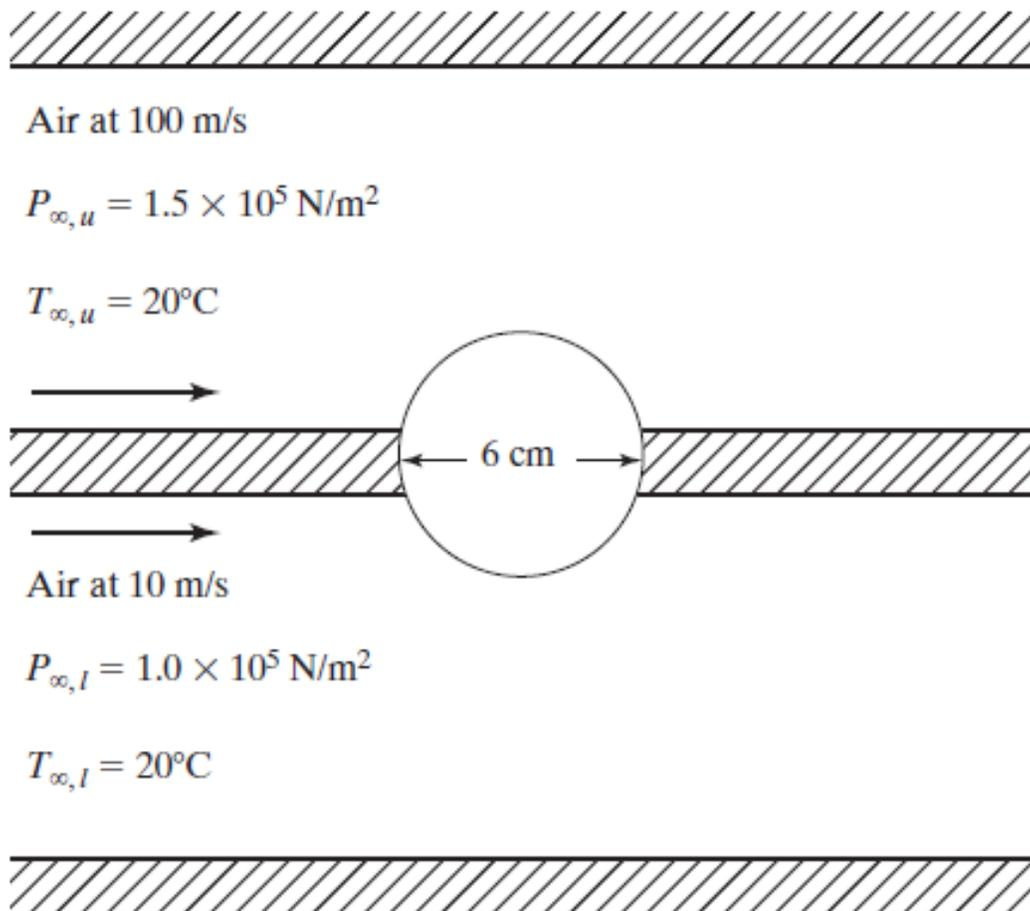

Fig. 7.
14. An infinite-span cylinder (two-dimensional) serves as a plug between the two airstreams, as shown in Fig. 7. Both air flows may be considered to be steady, inviscid, and incompressible. Neglecting the body forces in the air and the weight of the cylinder, in which direction does the plug move (i.e., due to the airflow)?